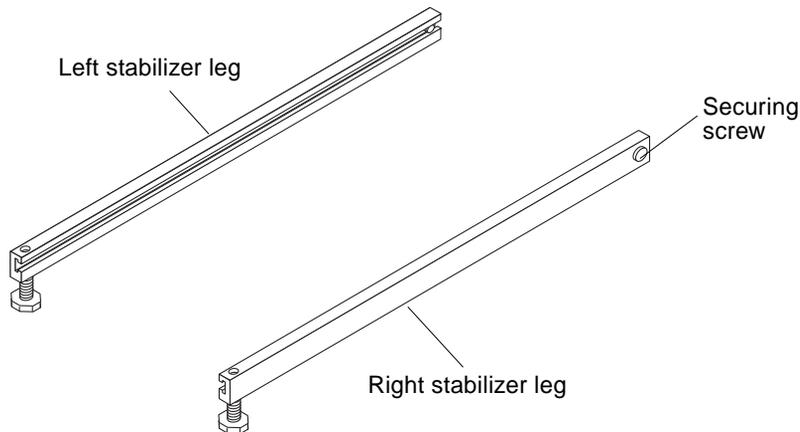

FIGURE 3-2 Stabilizer Legs
1. Loosen the securing screw on the right stabilizer leg (FIGURE 3-2).
3. Tighten the securing screw (FIGURE 3-2 on page 3-4) to prevent the stabilizer leg from falling off the mounting screws when it is extended.